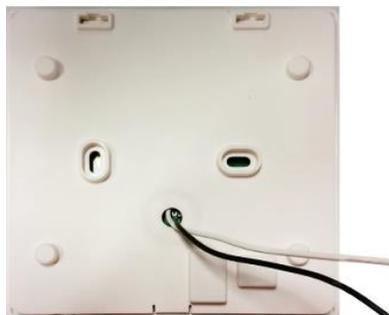

Figure 1-6: Replacing Rear Panel after Wiring
3. Feed both wires through the rear panel conduit opening and snap rear panel onto rear of cascade Sequencer (Figure 1-6).